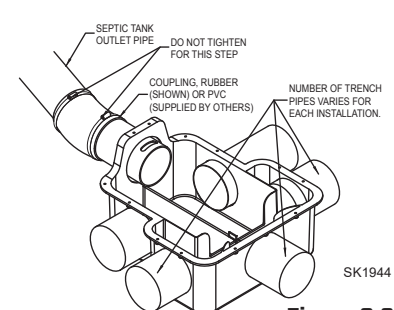

Figure 3.2
- 3.3) Connect the inlet pipe to slotted pipe nipple with a coupling (flexible rubbers shown). Do not tighten coupling at this time. If used see Figure 3.2.